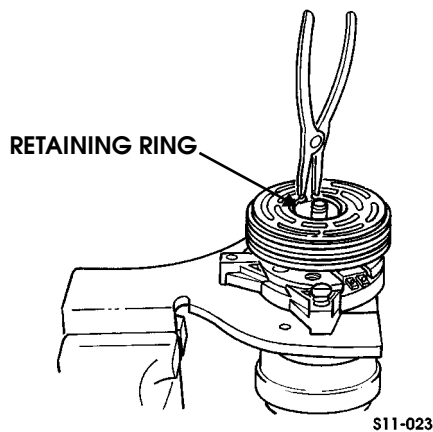

Figure 11-64: Shaft Seal Retainer Ring
- Using snapping pliers, remove the shaft seal retaining ring (Figure 11-64).